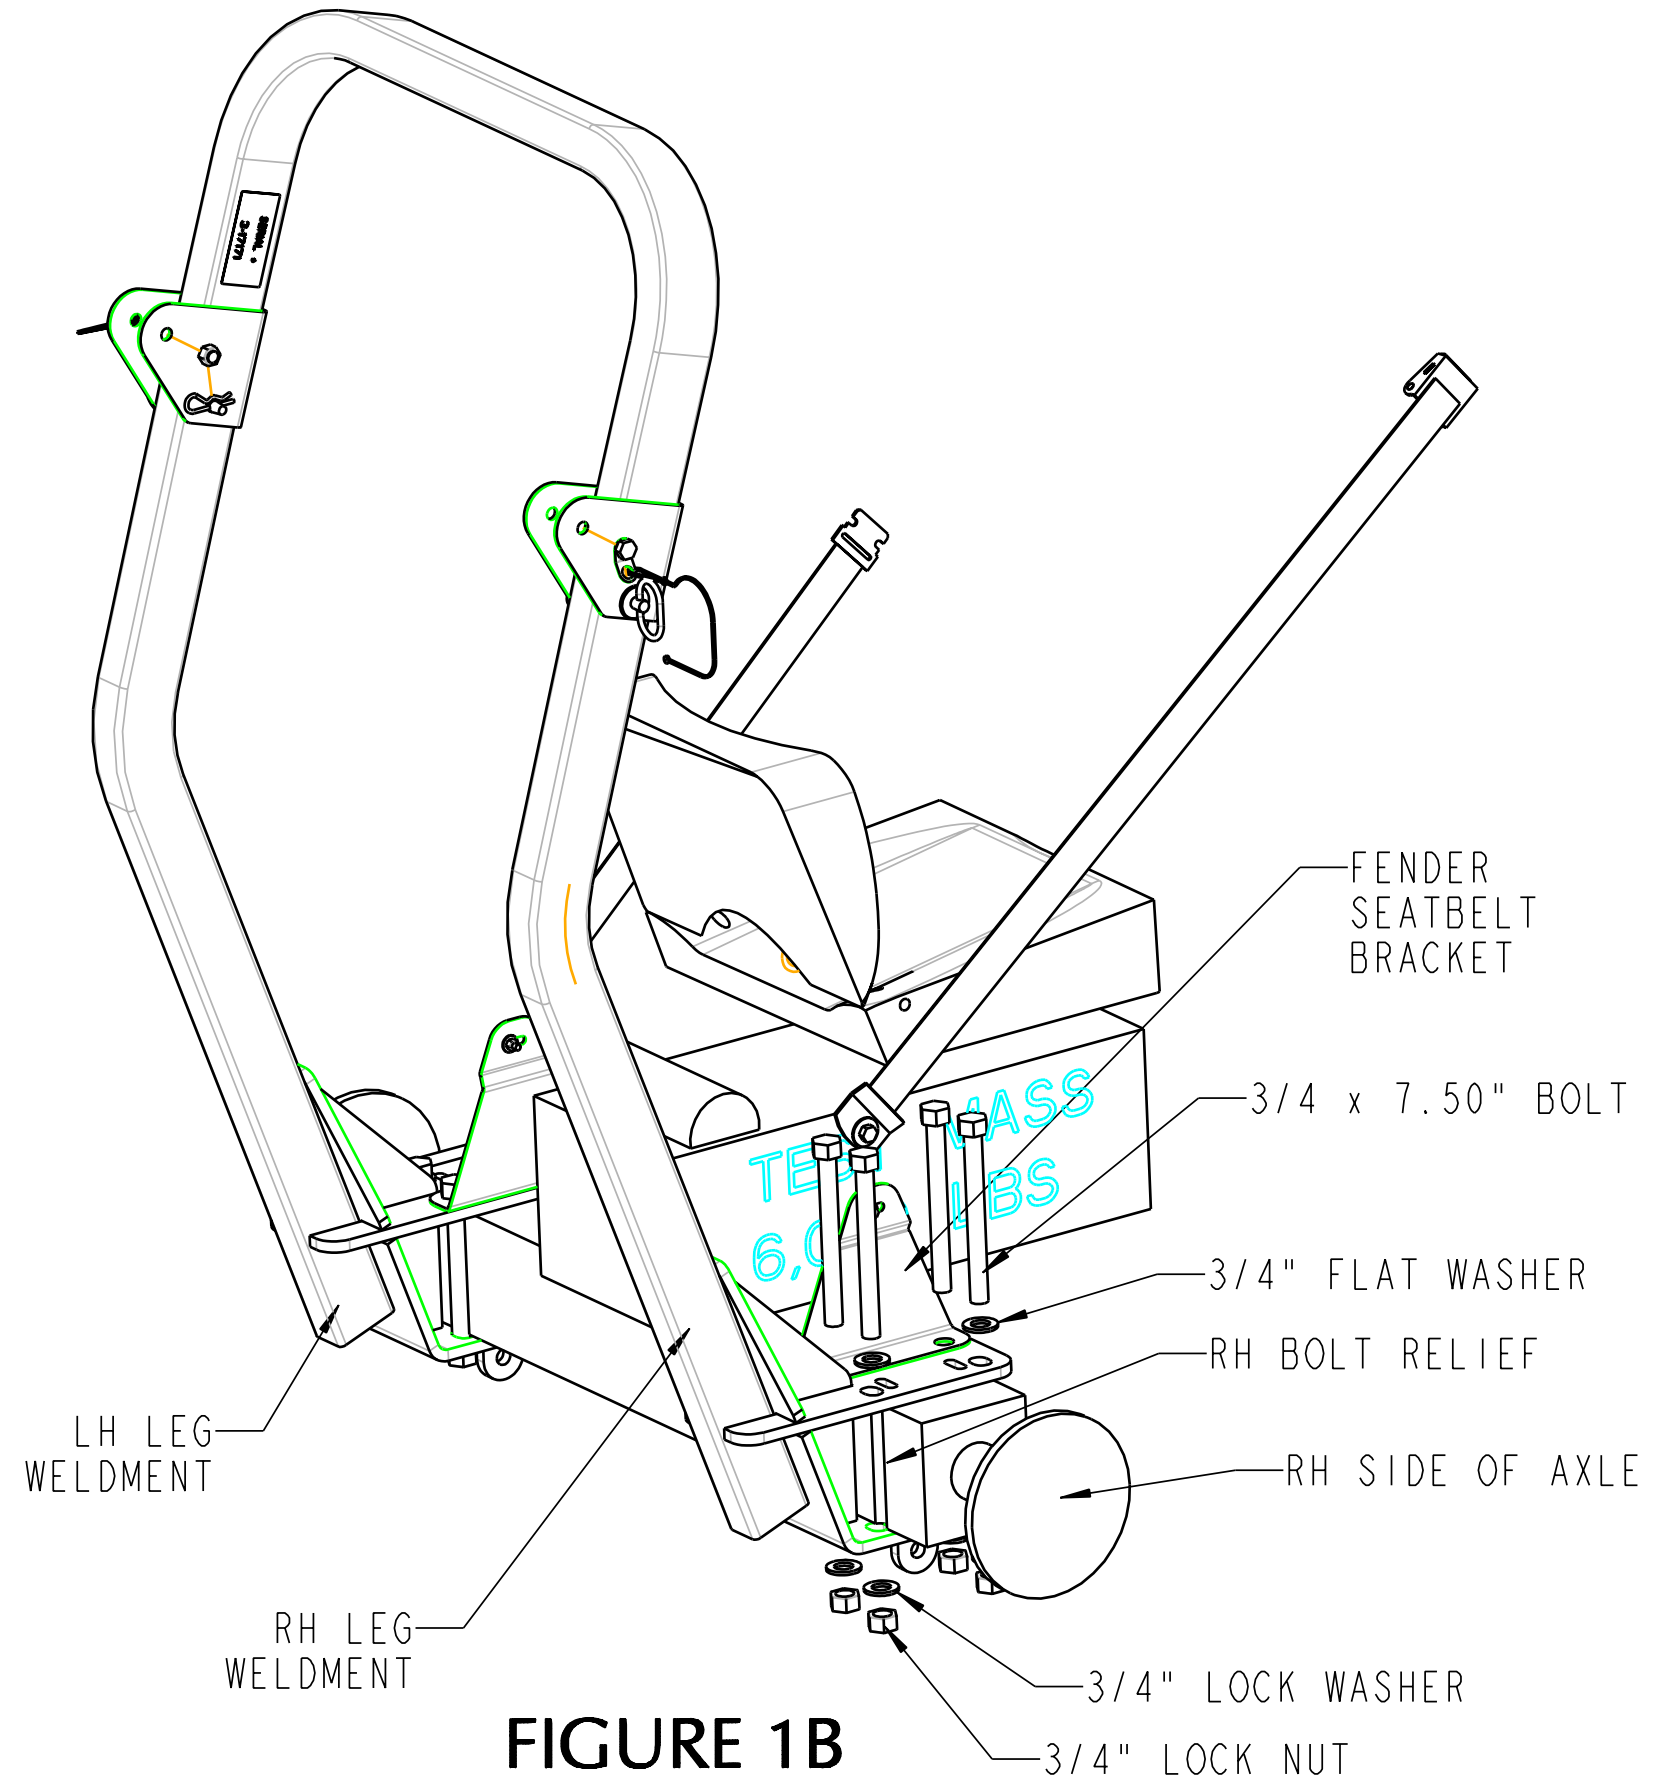

FIGURE 1B
- 5) Locate the bolt reliefs on each side of the axle casting. Align right hand leg weldment with right side bolt relief's on axle. Secure using (4) $\frac{3}{4}$ " x 7.50" long bolts, (6) $\frac{3}{4}$ " flat washers, (1) fender seatbelt mount bracket and (4) $\frac{3}{4}$ " lock nuts, supplied with the ROPS hardware kit. See Figure 1B.
- 6) Secure bottom of fender to fender/seat belt bracket using (1) $\frac{1}{4}$ " x 1 hex head bolt, (2) $\frac{1}{4}$ " flat washers and (1) $\frac{1}{4}$ " nylock nut.